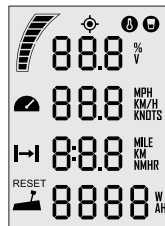

Figure 5-13
Step3: Press “” button and hold 5s to enter the pairing setting page (Figure 5-13). On this page, you can find blinking “Add” (address) and “SEt” (set), and a countdown timer “060” (60s).